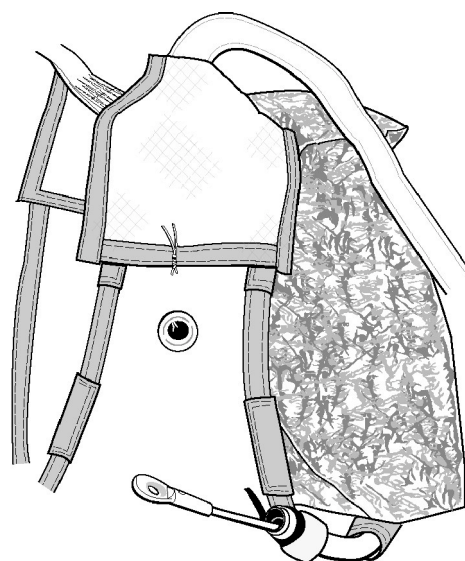

Figure 24. Sleeve Tacking
k. Tack swivel protective sleeve to flap #3 on the outboard side (opposite side of pins), approximately 1/2-in. to 1-in. from grommet with one turn single size E thread. Tack through the outboard fabric layer. Tie off with a surgeon's knot, followed by a square knot (Figure 24).